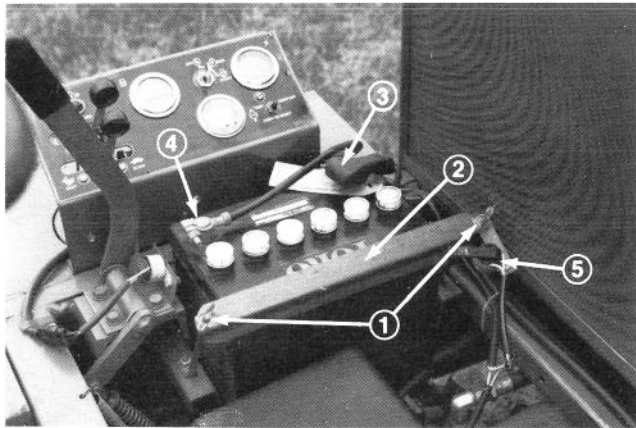

Figure 5
2. Remove two wing nuts and hold down strap that secure battery and seat switch in place (Fig. 5). Lift battery out of Chassis. Keep wing nuts and hold down strap in a safe place for later use.
1. Install battery and secure with hold down strap and wing nuts (Fig. 5). Remove tape over ends of each cable.
2. Slide the red, positive battery cable (Fig. 5) onto positive battery post and tighten nut securely.
3. Slide the black, negative battery cable (Fig. 5) onto negative battery post and tighten nut securely.